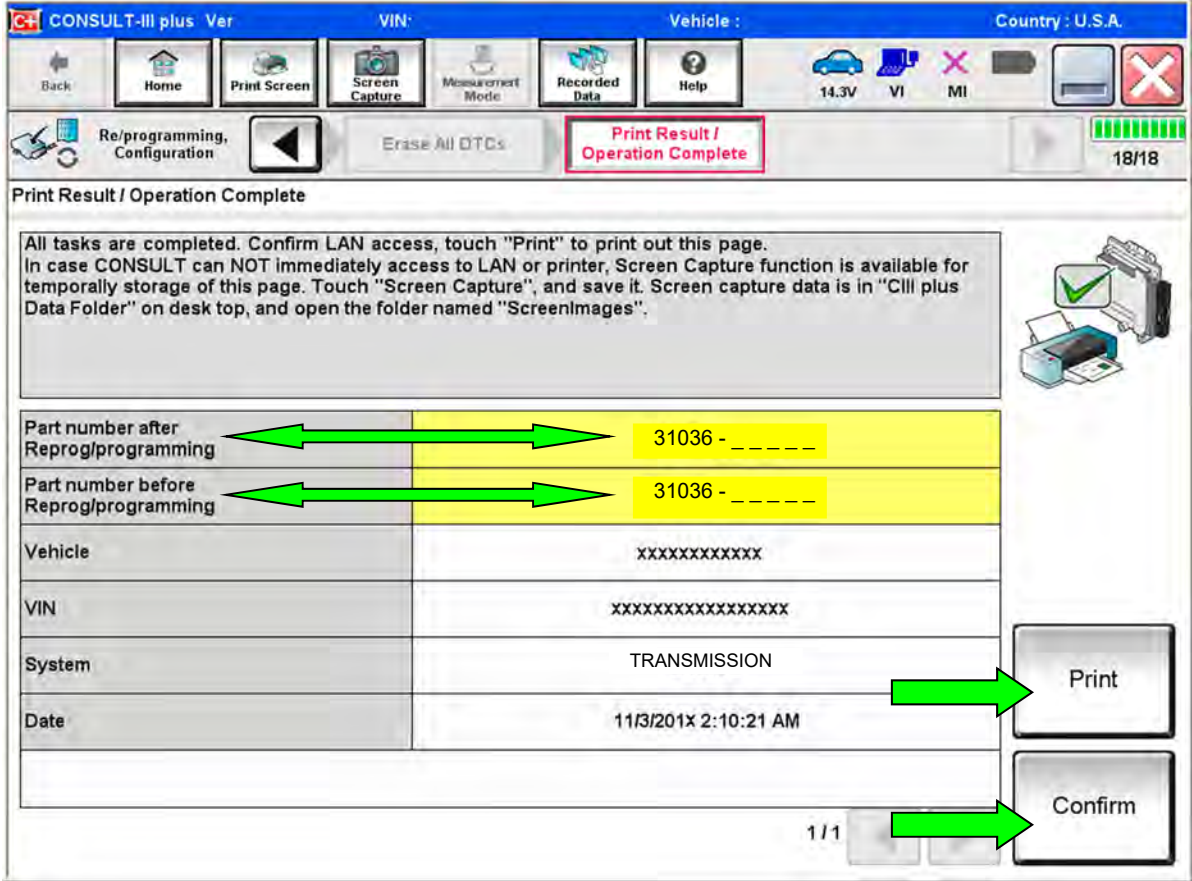

Figure 172
- 147. When the entire reprogramming process is complete, the screen in Figure 172 will display.
- 149. Print a copy of this screen (Figure 172) and attach it to the repair order for warranty documentation.